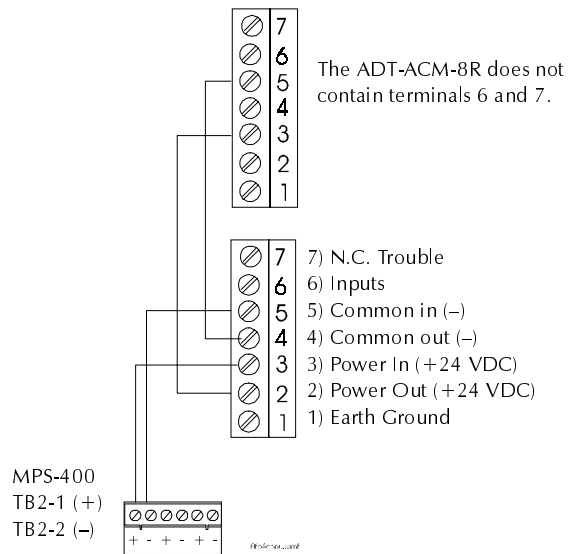
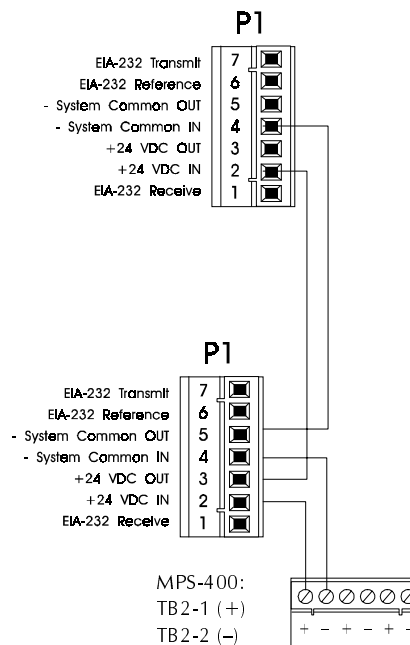

Figure A-3 Power Connections for ADT-LCD, ACS Type Annunciators
Figure A-4 Power Connections for ADT-LCD-80s
- Each ADT-LCD-80 must connect to regulated 24 VDC power. Power an ADT-LCD-80 from the MPS-400 power supply or a separate UL-listed power supply (For power connections, see Figure A-3 on page A-15.)
An ADT-LCD-80 operated in ACS mode connects to TB4 on the CPU using a power-limited EIA-485 circuit. Figure A-3 shows power connections for ADT-LCD-, ADT-ACM-, and ADT-ACS- type annunciators; and Figure A-4 shows power connections for ADT-LCD-80s. The following guidelines apply to Figure A-3 and Figure A-4:
Figure A-4 shows typical power connections for ADT-LCD-80 annunciators: